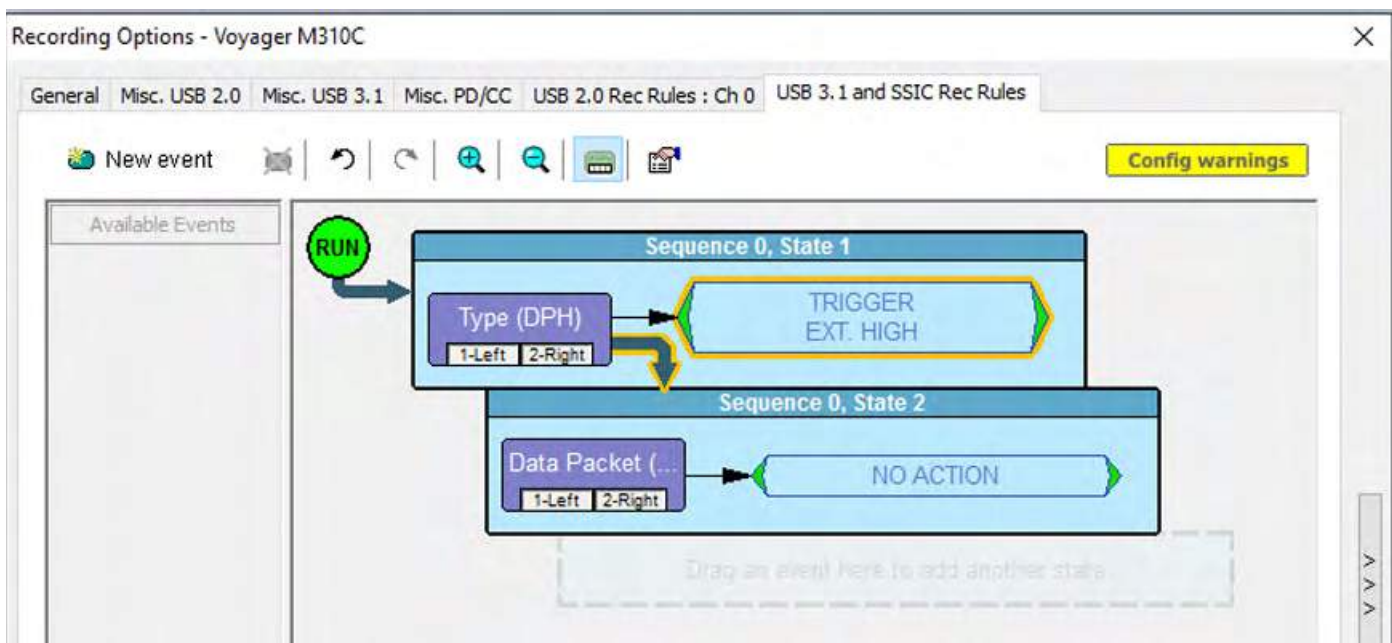

Figure 5.39: Advancing the Sequence.
**Advance the Sequence:** Creates an event sequence consisting of the event you clicked on and an event in a successive state of the sequence. A thick arrow appears from the selected event and points downward. See Figure 5.39.